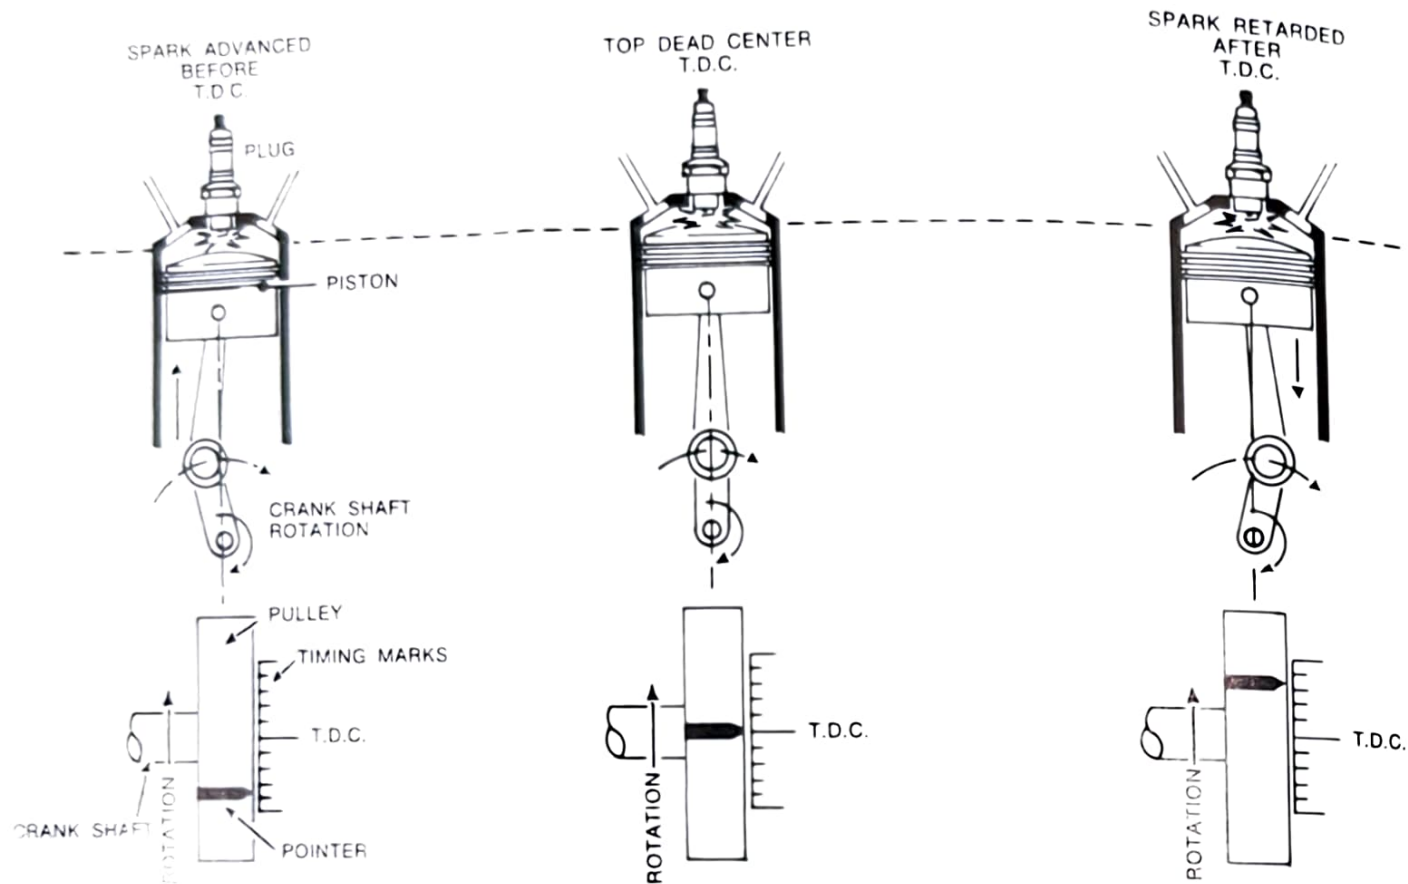

Figure 1
Timing is given in degrees Before Top Dead Center (BTDC) or After Top Dead Center (ATDC) in the manufacturer's specifications. In order to completely burn the air/fuel mixture in the car's engine cylinders, most timing is such that the spark occurs at a point several degrees before top dead center (for example, 4° BTDC) to assure that full power of the explosion is obtained. See Figure 1.
Two additional terms the engine manufacturers use when describing timing are "Advanced" and "Retarded". As shown in Figure 1, when the timing is advanced the spark will occur before the piston reaches the top of the engine cylinder (BTDC). On some late model cars equipped with various emission control devices, the timing is retarded so that the spark occurs after the piston has started down in the cylinder (ATDC). Engine timing is changed by adjustment of the ignition distributor.
In order to allow setting and adjustment of the engine timing, special "Timing Marks" are provided on each engine during assembly. In most cases, these marks appear on the engine vibration damper or fan pulley at the lower front of the engine. See Figure 1. On some early engines this mark was shown at the rear of the engine on the flywheel.
1. Locate engine timing mark (see figure 1) and use a rag to clean all grease and dirt from the mark and the pointer. It may help to use chalk or white paint on the marks to make them more easily seen.